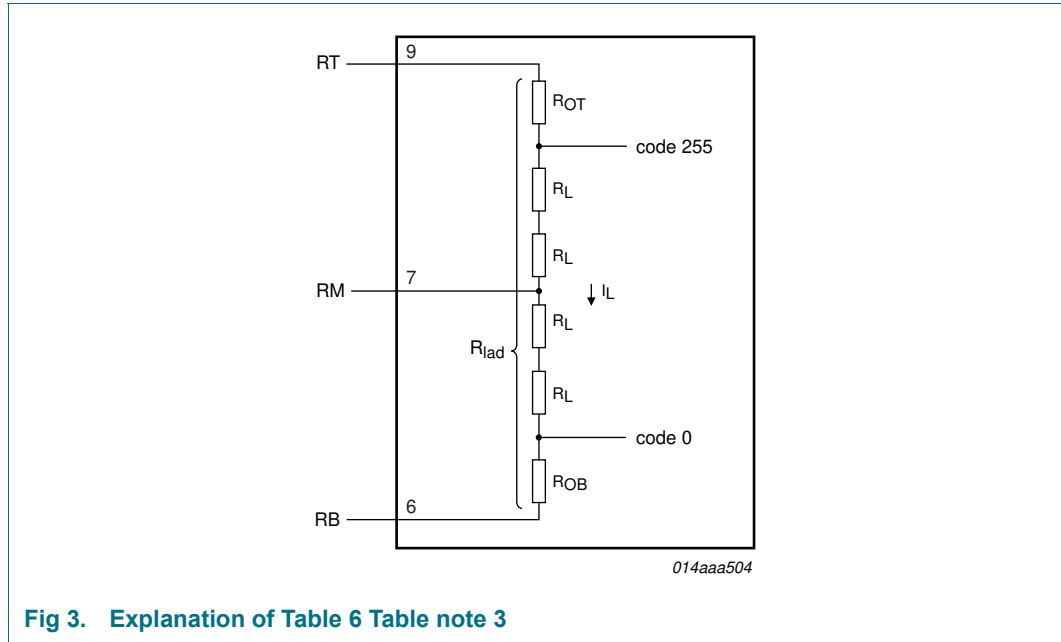

Fig 3. Explanation of Table 6 Table note 3
- [3] To ensure the optimum linearity performance of such a converter architecture the lower and upper extremities of the converter reference resistor ladder are connected to pins RB and RT via offset resistors  $R_{OB}$  and  $R_{OT}$  as shown in Figure 3.